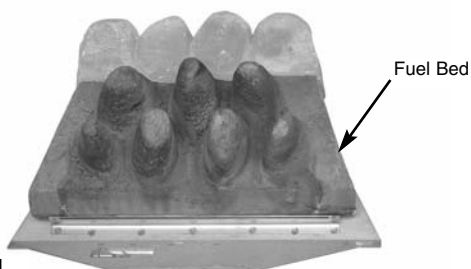

Fig. 54
2. Place the main fuel bed on to the middle section of the metal burner tray. It is important that the front edge of the fuel bed is located behind the burner strip (Fig. 54).